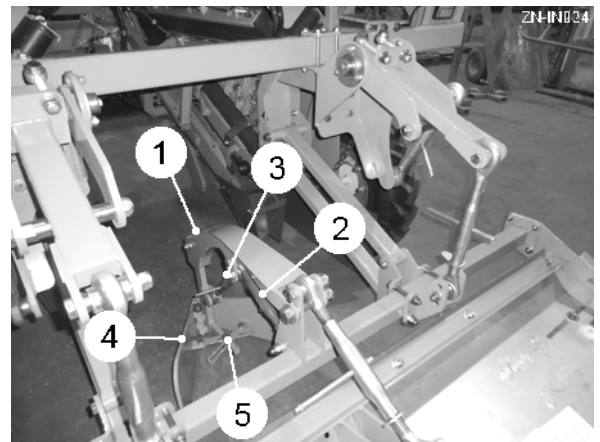

Fig 19
The centre plough (item 1, fig 19) controls the amount of soil pushed sideways under the moulding board giving, if required, more soil to the edge of the bed. The height of the plough is set by the top link (item 2, fig 19). The deeper the plough is set, the more soil it will push sideways. Care should be taken as going too deep may move the seed in the bed. The pitch angle of the plough is set by the top link (item 3, fig 19). To adjust the angle of the wings (item 4, fig 19), loosen the retaining bolt (item 5, fig 19) and pull the wings out. Adjust both sides equally.